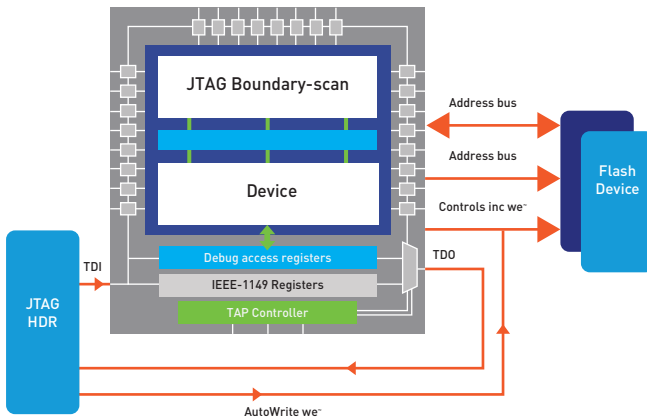

Figure 2a) Flash Programming via JTAG and use of optional AutoWrite
**a)** Using AutoWrite™ - AutoWrite (AW) is a signal deployed in addition to the standard JTAG signals (see figure 2a). When programming flash via JTAG/boundary-scan there can be a significant overhead involved just in producing a WE\_ pulse. In a standard set-up, a write cycle can be initiated by shifting a data-stream with address information and valid data in a pattern that also holds the flash WE\_ line high. The same address and data is shifted again with WE\_ low, and a third time with WE\_ high again. A JTAG controller that includes AW produces a supplementary WE\_ pulse and reduces the boundary-scan shifts per write cycle from three to just one.